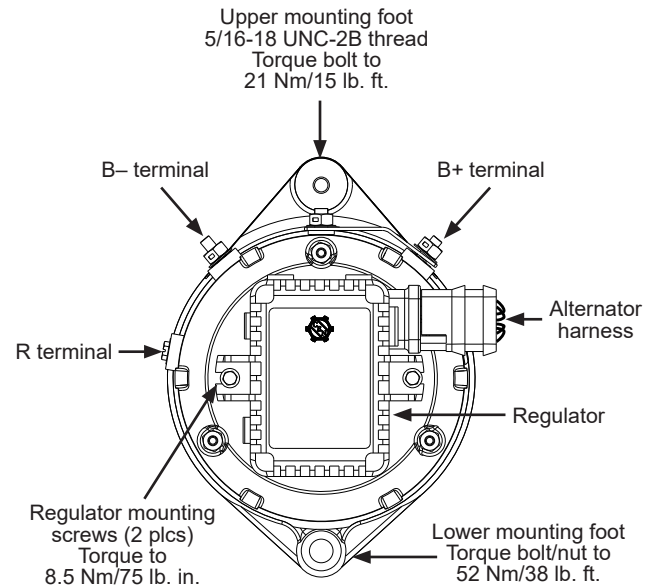
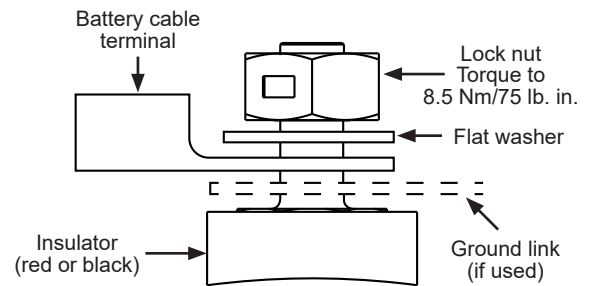

Figure 4: Alternator/Regulator Connections
Figure 5: B- / B+ Output Stud Stacking Order
4. Install regulator as shown in Figure 4:
- Connect vehicle battery negative (B-) cable to alternator B- terminal (see Figure 4 for terminal location). Install hardware on B- terminal in stacking order shown in Figure 5. Torque to 8.5 Nm/75 lb. in.
- Connect vehicle battery positive (B+) cable to alternator B+ terminal (see Figure 4 for terminal location). Install hardware on B+ terminal in stacking order shown in Figure 5. Torque to 8.5 Nm/75 lb. in.